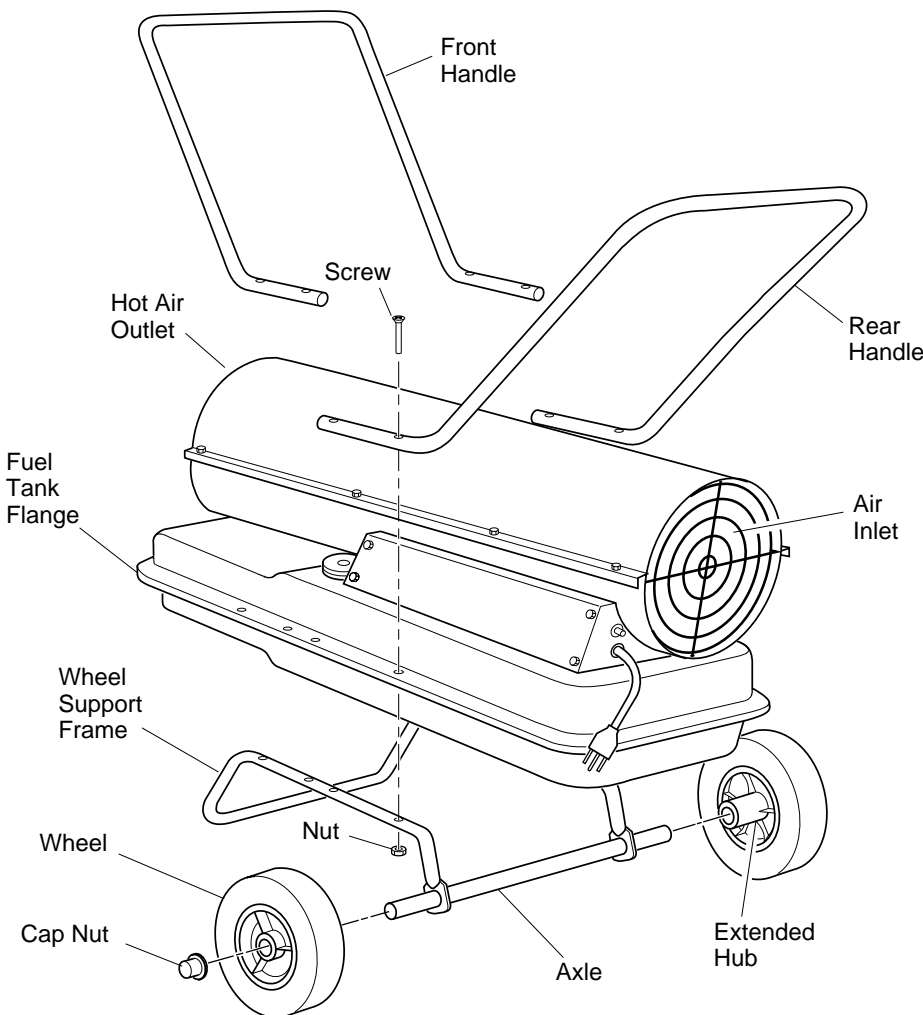

Figure 2 - Wheel and Handle Assembly
**IMPORTANT:** When installing wheels, point extended hub of wheels toward wheel support frame (see Figure 2).